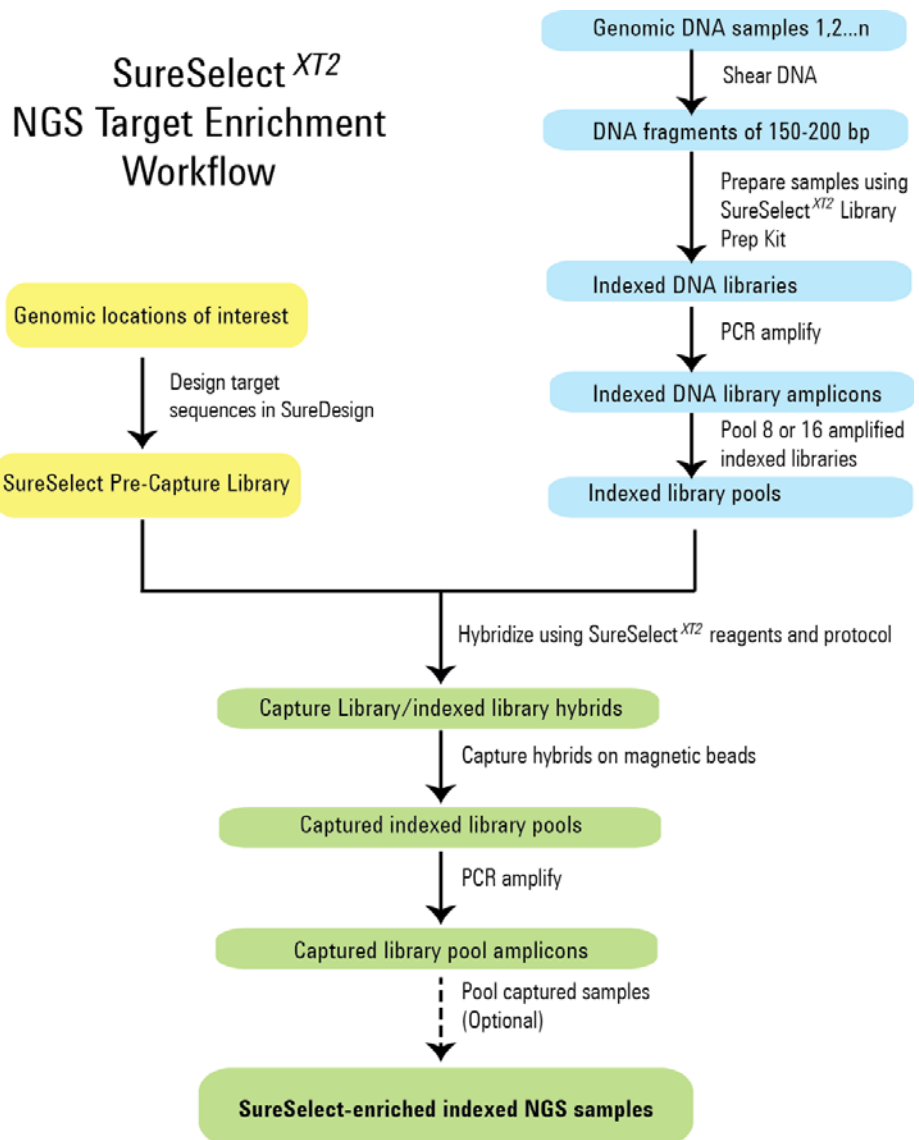

Figure 2 Overall sequencing sample preparation workflow.
Figure 2 summarizes the SureSelect^{XT2} pre-capture indexing and target enrichment workflow. For each sample to be sequenced, an individual library indexing reaction is performed. Indexed libraries are then pooled for hybridization and capture steps, using a pooling strategy appropriate for the size of the Probe Capture Library and the sequencing design.
Indexed DNA samples are pooled before the hybridization step (see Figure 2) and captured DNA samples may be pooled again when preparing samples for sequencing. It is important to develop a pooling strategy that is compatible with the specific Probe sizes and sequencing goals of the experiment using the following considerations:
- At the hybridization step (see Figure 2), you can add a different Probe to different rows or columns of the plate. See page 28 for guidelines on selecting the appropriate hybridization run configuration. Plan your experiment such that each indexed DNA library is placed in a pool in the row or column of the sample plate that corresponds to the appropriate Probe for hybridization.
- For post-capture amplification (see Figure 2), different Probes can require different amplification cycle numbers, based on sizes of the captured targets. It is most efficient to process similar-sized Probes on the same plate. See Table 56 on page 114 to determine which Probe captures may be amplified on the same plate.